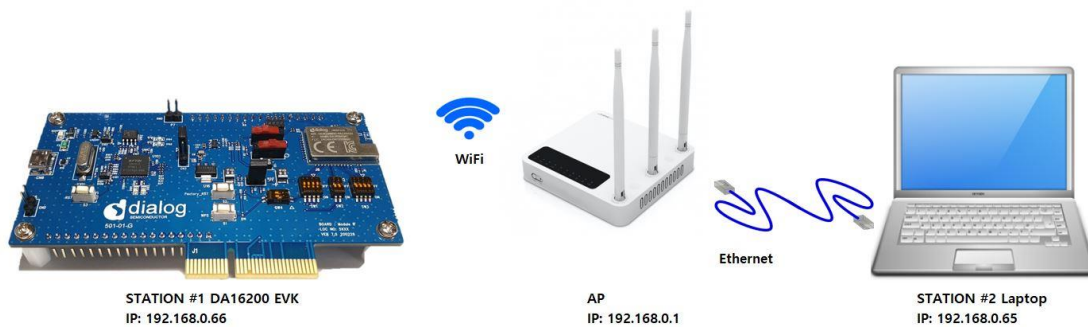

Figure 45: Ping Test Environment
The ping communication test requires an access point (AP) and two stations consisting of a DA16200 or DA16600 EVB and a desktop. The two stations must be connected to the same sub-network AP as shown in Figure 45. The DA16200 must be connected to the AP via Wi-Fi, and the laptop must be connected to the AP with an Ethernet cable.